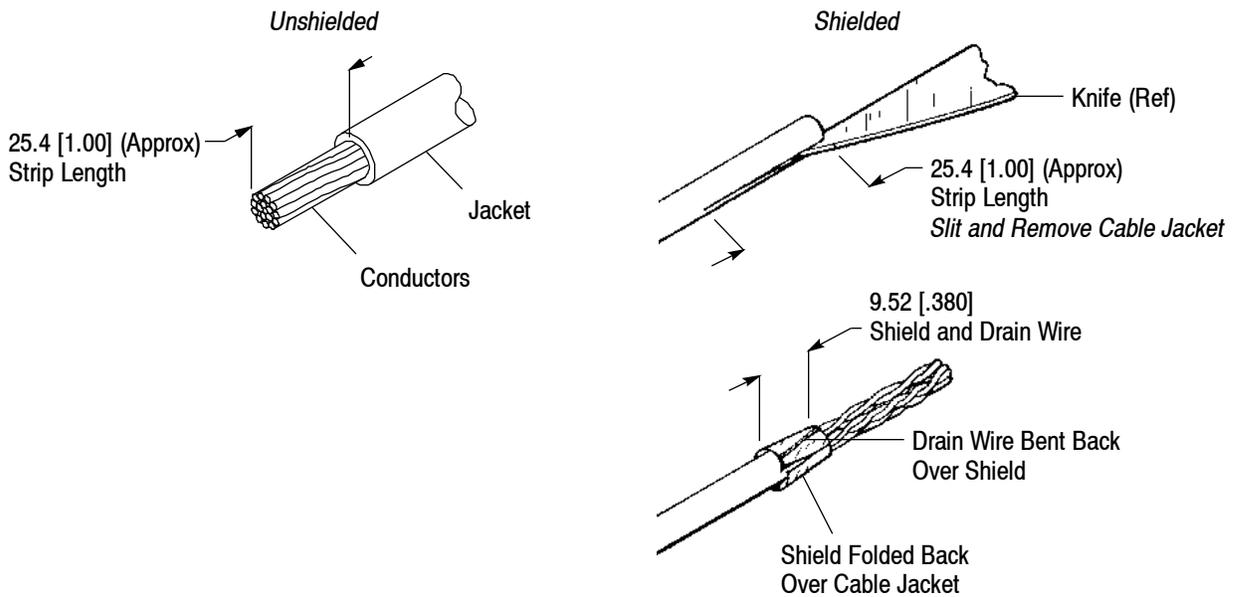

Figure 2
1. The sealing nut (small diameter end first), wire entry seal (tines first), and plug assembly (threaded end first) must be installed onto the cable. See Figure 2, Detail A.
2. Proper strip length is necessary to insert the conductors into the contact slots of the modular plug. The recommended strip length is given in Figure 2, Detail B.
For shielded cable, the shield must be folded back over the cable jacket, and the drain wire must be bent back over shield. The shield and drain wire must be trimmed to the dimension given in Figure 2, Detail B.